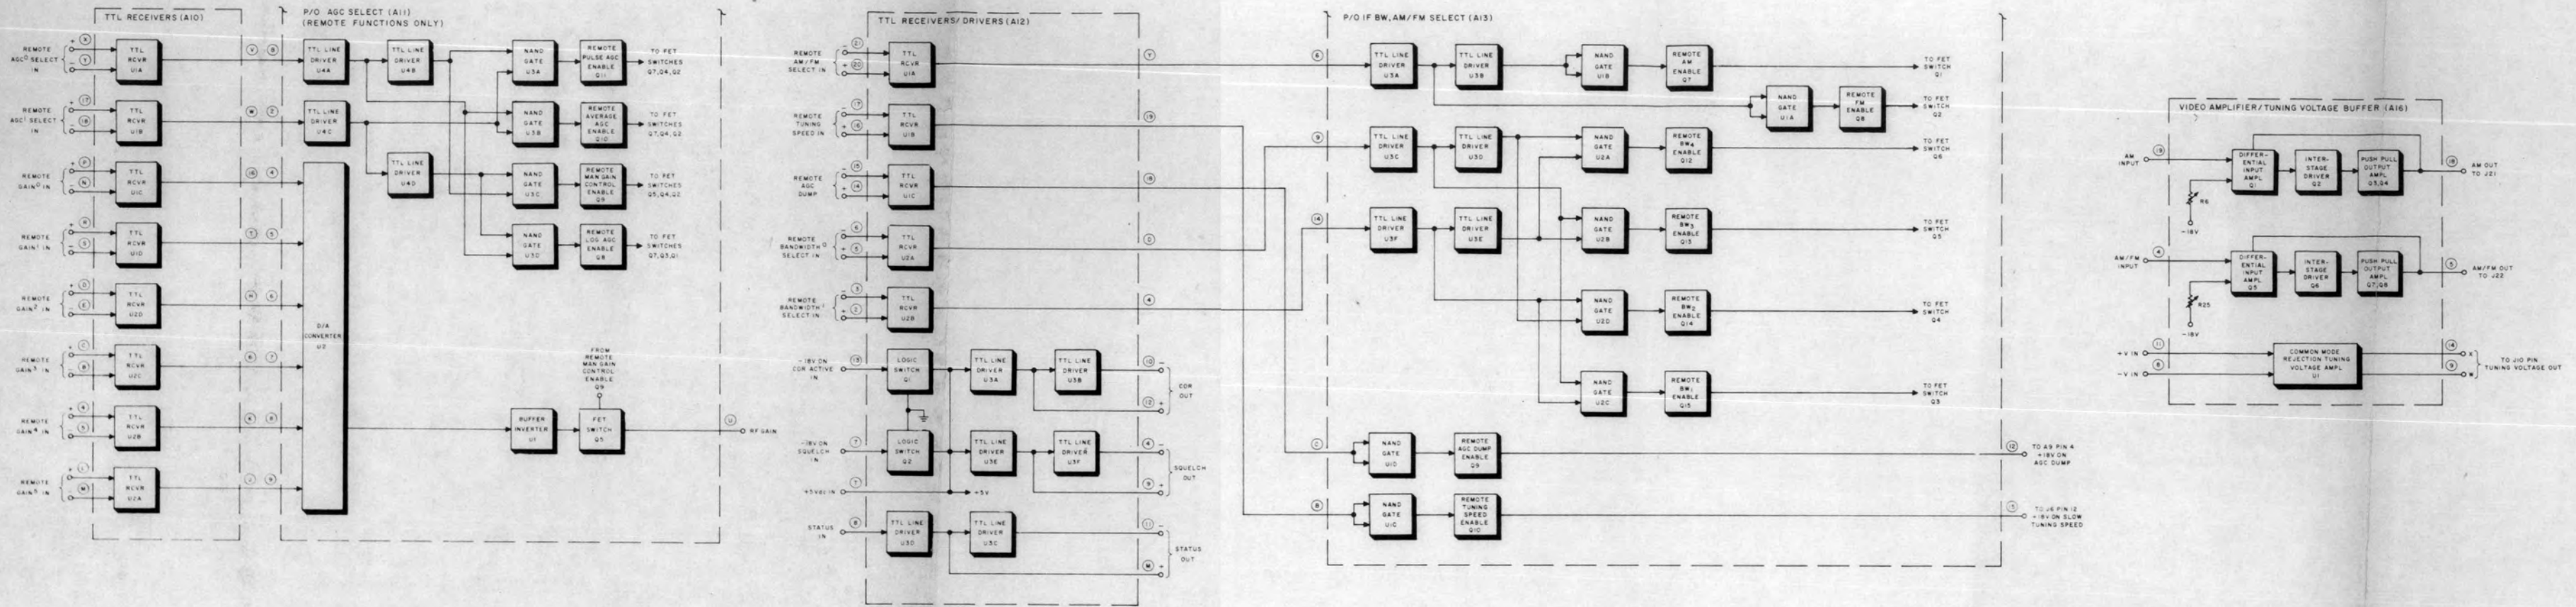

Figure 2-3. Type 215 Receiver, Remote Control Circuits, Functional Block Diagram
2.2.3 Remote Control Circuits. - Figure 2-3 illustrates the functional interconnections between the various remote controlling circuits in the 215 Receiver. These circuits are located on plug-in printed circuit boards A10 through A13 and A16. Portions of boards A11, A13, and A16 operate during the local operation of the receiver and are controlled by the front panel controls. In the REMOTE reception mode, the same circuits are used, but are controlled by remote command signals from the remaining boards.